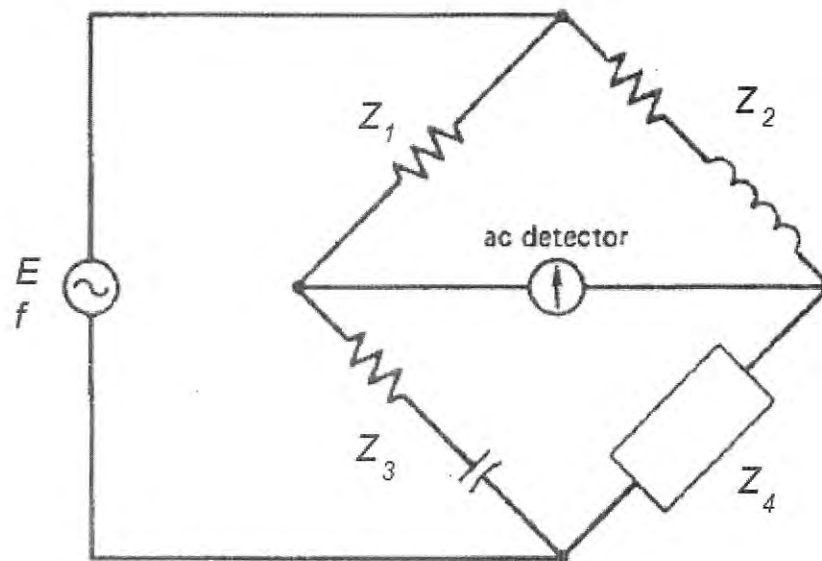

Figure Q3
**Q3** An AC bridge is shown in **Figure Q3**. It has an AC excitation input and four arms of impedances, labelled as  $Z_1$ ,  $Z_2$ ,  $Z_3$  and  $Z_4$  and a null detector.